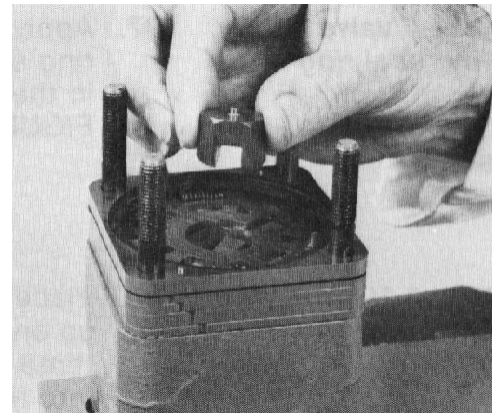

Figure 99
36. Put the hex drive assembly, pin side up, through the hole in the isolation manifold (Fig. 99). the slot in the hex drive must be engaged with the SMALL tang of the drive link. Turn the input shaft to assist the engagement.